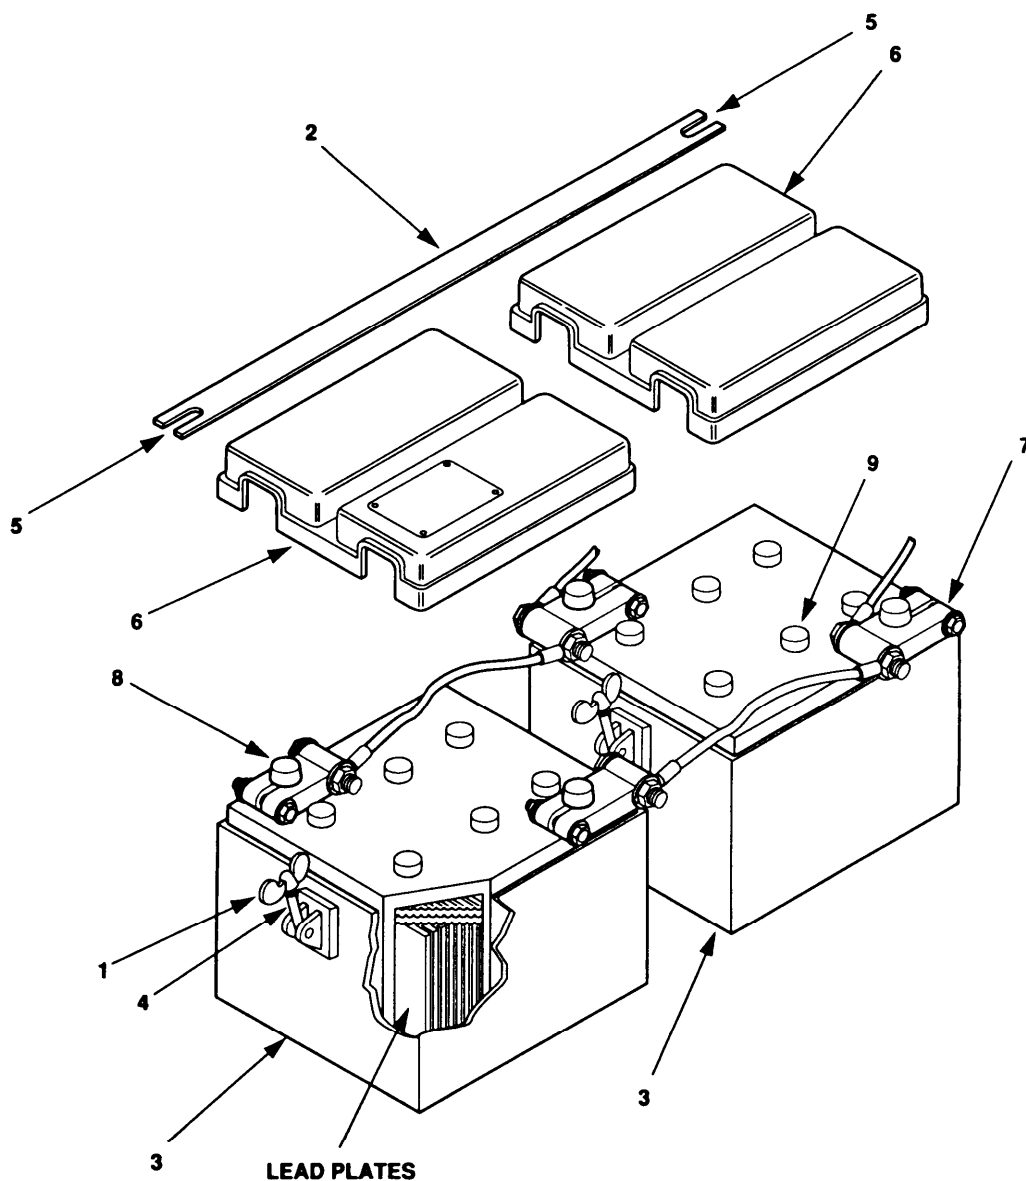

Figure 3-2. Servicing Batteries and Cables.
- a. Loosen two wing nuts (figure 3-2, 1), one on each side, that secure holding strap (2) to battery cases (3).
- b. Let eye bolts (4) drop away from strap slots (5).
- c. Remove and retain strap (2).
- d. Remove and retain battery access covers (6).
- f. Remove and retain six caps (9) on each battery.